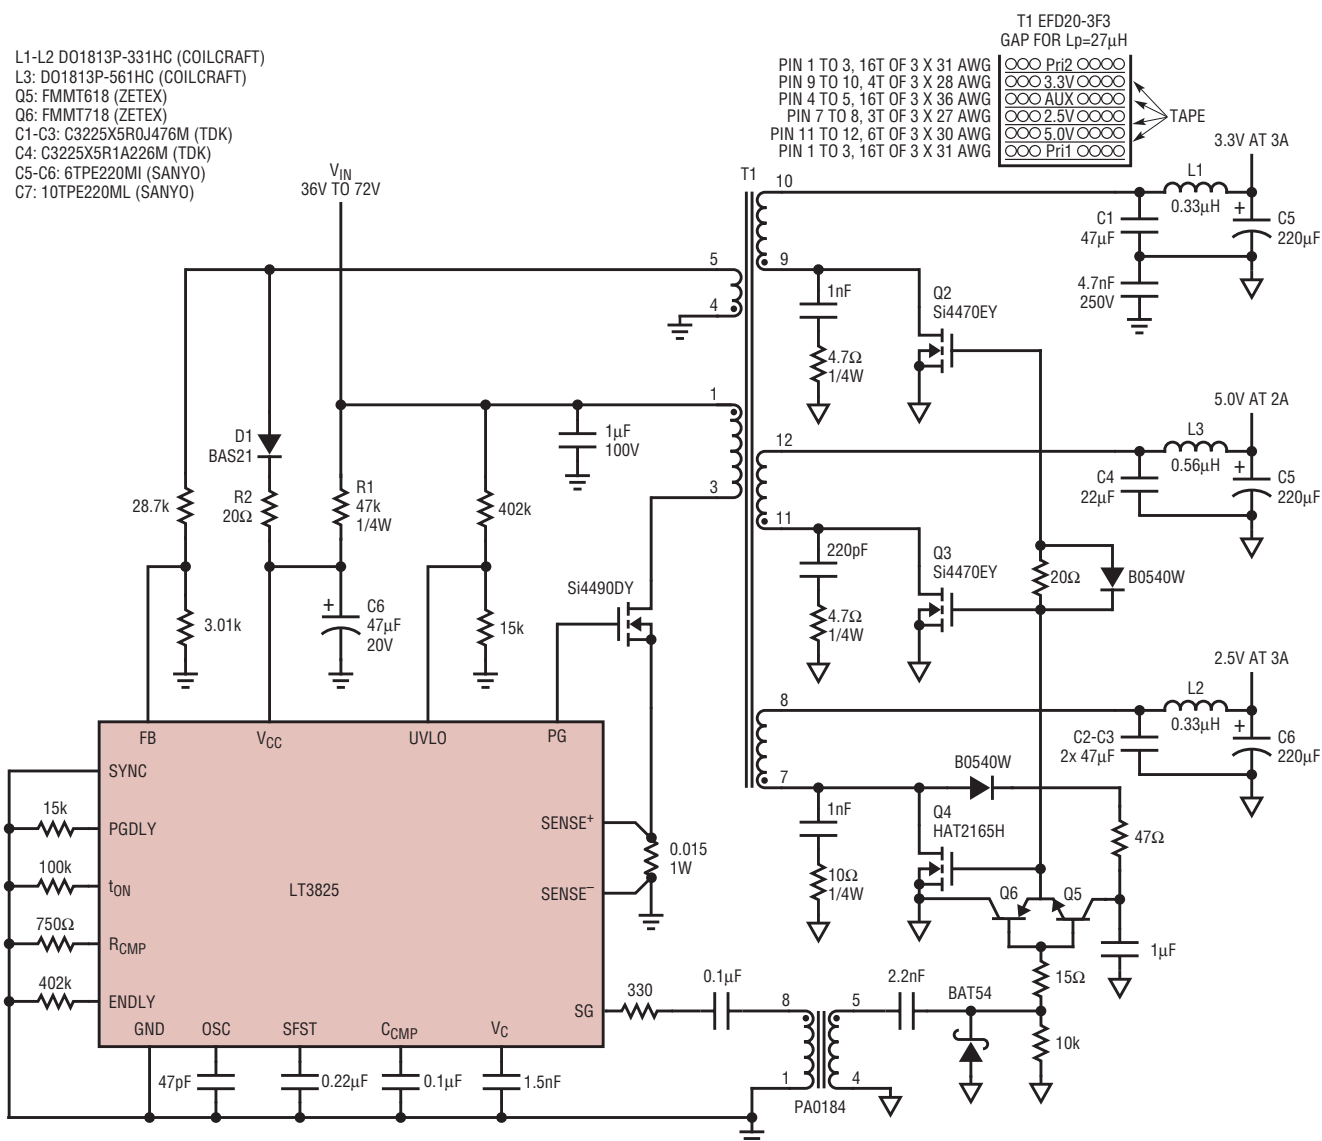
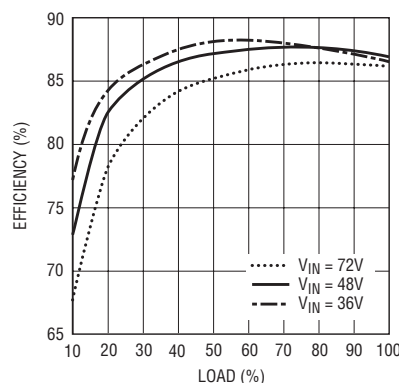

Figure 1. Simple, high efficiency, 36V_{IN}-72V_{IN} to 2.5V_{OUT} at 3A, 3.3V_{OUT} at 3A, and 5.0V_{OUT} at 2A synchronous flyback
Figure 2. Efficiency of circuit in Figure 1
The circuit in Figure 1 shows an isolated, *no-optoisolator*, synchronous flyback, 48V to 5.0V at 2A, 3.3V at 3A, and 2.5V at 3A power supply. Figure 2 shows its efficiency. The converter's efficiency of over 87% at the nominal input voltage of 48V and full, rated output current on each output approaches that of a higher parts count forward converter. This is primarily the result of a simple, well-controlled implementation of synchronous rectification. As a result of this high efficiency, the greatest temperature rise of any component is only 35°C above the ambient temperature with a paltry 100LFM of airflow.
using Schottky diodes, which can vary by more than 0.25V over temperature and load. Under the same conditions, the voltage drop across the MOSFETs in Figure 1 vary only by 60mV, a factor of four better. The MOSFET-based topology tightly couples each output, thereby reducing voltage differences during extreme temperature and cross-loading conditions.
Instead of using a parts-intensive, secondary-side voltage reference and error amplifier to drive an optocoupler, the LT3825 uses the primary bias winding on the flyback transformer, T1 (see Figure 1). The voltage on this winding during the flyback pulse is the average of all output voltages as reflected to the primary. The LT3825 feedback (FB) pin reads this voltage, which is then used to modulate the on-time of Q1 to regulate the output voltages. Cross-regulation performance is enhanced since the average of all outputs is presented to the controller as opposed to just one output voltage's information as with an optocoupler. Another important benefit of this technique is that the output voltage information arrives at the controller immediately after the switching cycle is terminated. In a conventional optocoupler-based design, delays of tens to hundreds of microseconds occur in the optocoupler alone, severely limiting the converter's transient response.